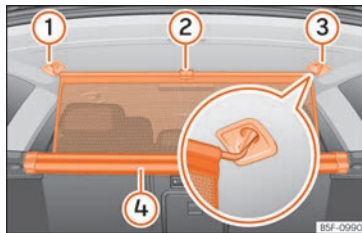

Fig. 157 In the luggage compartment: securing the net partition.
- Pull up handle » Fig. 157 ② to remove the net from the casing ④.
- Hook in the net partition on the right side ③ (magnified image).
- Hook in the net partition in the left side housing ① pulling the rod.